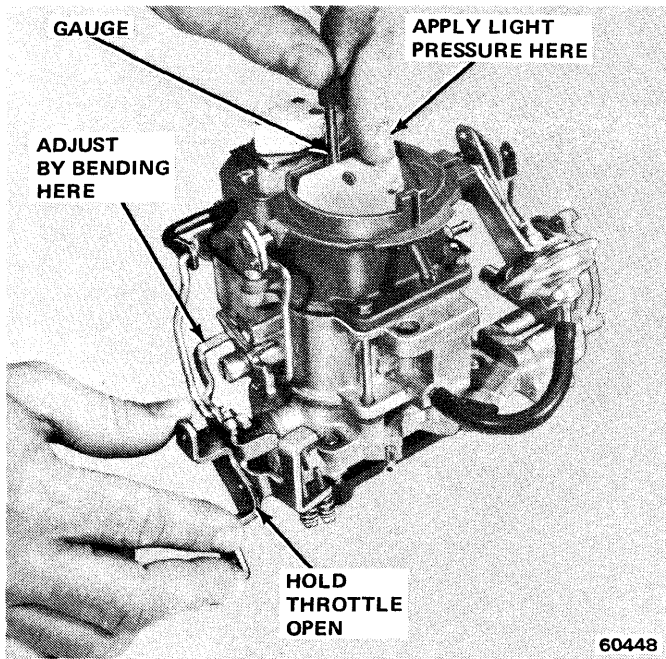

Fig. 4-61 Choke Unloader Adjustment
- (1) Hold throttle wide open (fig. 4-61).
- (2) Insert gauge and apply light pressure to close choke plate.
- (3) Measure distance between choke plate and air horn wall. Refer to Carburetor Service Specifications.
- (4) Adjust by bending unloader tang. Do not bend tang so that it binds or interferes with any other part.